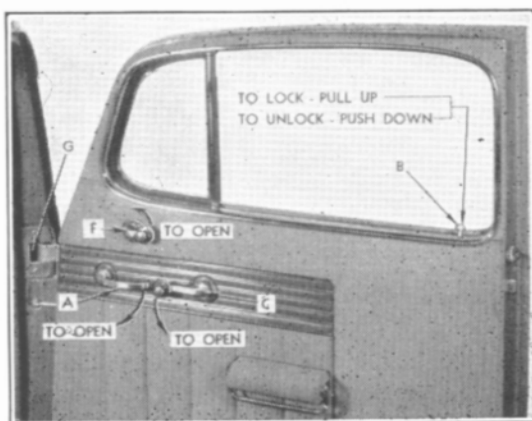

Figure 8
DOOR LOCKS—All doors can be locked from the inside by pulling up on the rubber knob (B) protruding from the door finish moulding, see Fig. 8. To unlock the door press down the knob. The right hand door can also be locked or unlocked from the outside with the ignition switch key. Turning the key one-quarter turn in a *clockwise* rotation and back to the starting position locks the door. To unlock it turn the key one-quarter turn in *counter-clockwise* rotation and then back to starting position.